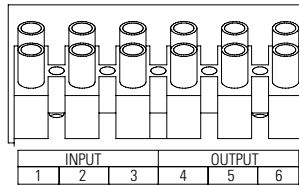

Figure 22. Terminal Block
6. Connect the input and ground wires to the input terminal block according to Figure 22 and Table 1.
7. Connect the output and ground wires to the output terminal block according to Figure 22 and Table 1.